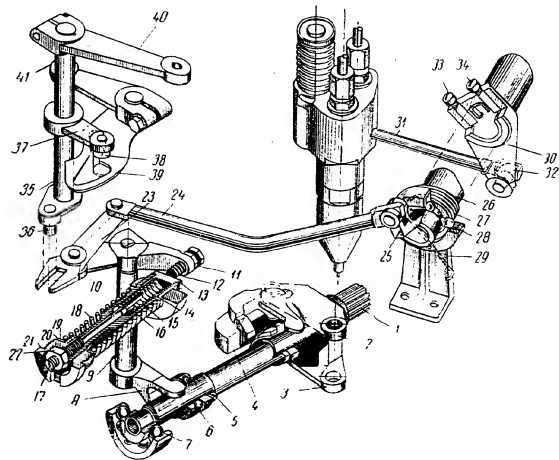
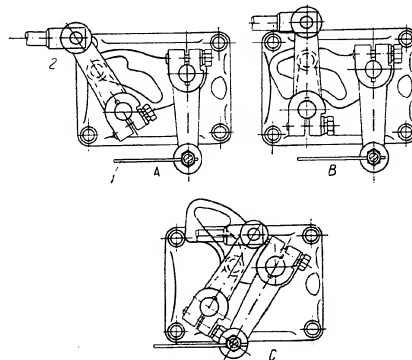

Fig. 10. Engine tune-up system
Fig. 11. Governor cover levers
Fig. 10 shows the diagram of the engine tune-up system. Fig. 11 shows the positions of the governor levers controlled by the accelerator pedal and by the engine stop button.
When the pump-injectors are again in place on the engine, proceed as follows to connect the racks of the pump-injectors to the governor (see Figs. 10 and 12):
7. Set the governor control lever to the idling speed position (see Fig. 11) and, moving it to the maximum fuel feed position, check the first cylinder pump-injector rack for correct setting.